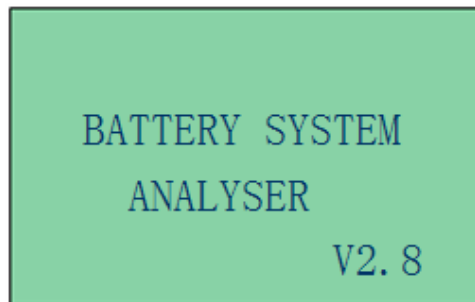

Figure 3
1. Attach the clips onto the battery terminal posts and the analyser will power up and lights up the LCD display screen as shown (Fig.3).